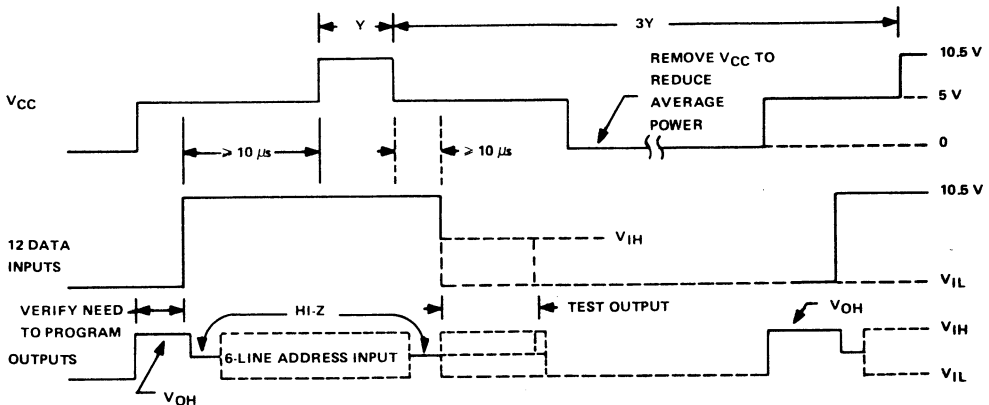

FIGURE 1 — OUTPUTS AND ENABLES PROGRAMMING SEQUENCE
1. Apply steady-state supply voltage ( $V_{CC} = 5\text{ V}$ ) and disable the outputs by applying 10.5 volts to the 12 data inputs. See Figure 1.
NOTES 3:  $V_{CC}$  should be removed between program-pulses to reduce dissipation and chip temperatures. See Figure 1.
7.  $V_{CC}$  should be removed between program pulses to reduce dissipation and chip temperatures. See Figure 1.